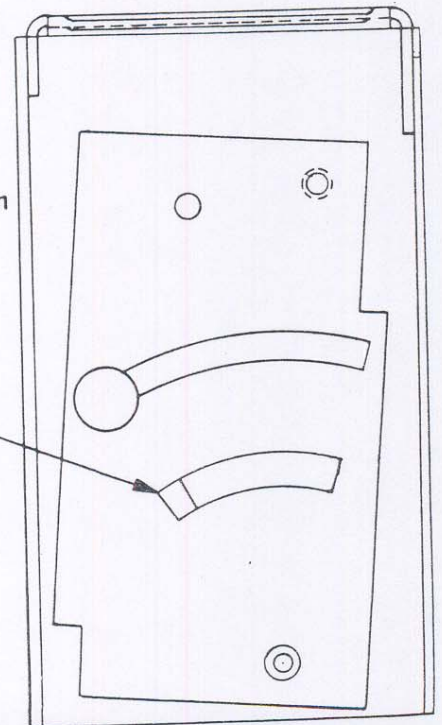

Fig. A6
2. Look in the back of the bevel knob (the inside of the front of the yoke) and you will see a steel plate with (2) curved slots. The bolt to the bevel lock knob passes through the upper slot. A cast protrusion (called a boss) rides in the lower slot. This boss, moving to the ends of the slot, precisely locates the blade at 90° or 45° to the table. See Fig. A6.